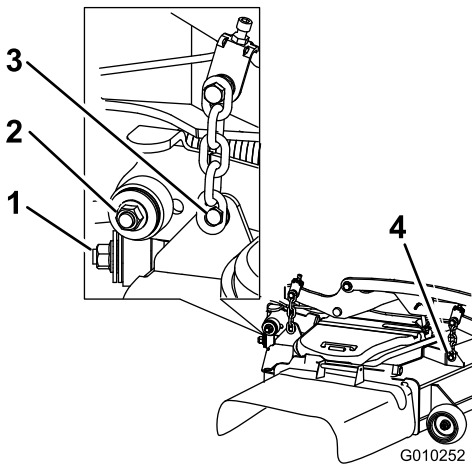

Figure 108
7. Remove and retain the hardware on both sides of the deck as shown in Figure 108.